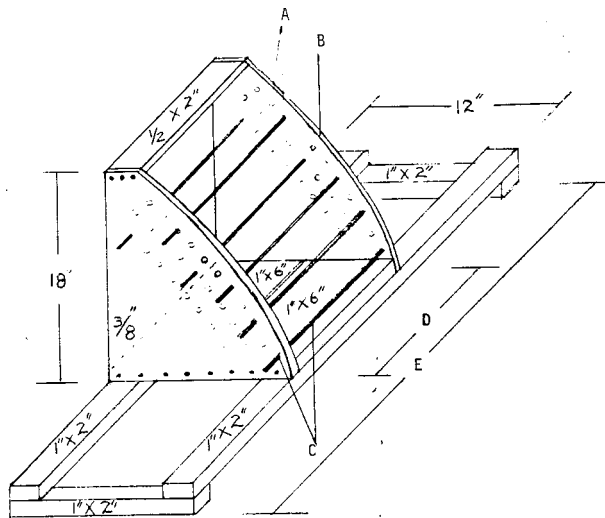

Figure 1: Warp shifting device
In Method Four, warp yarn shifting various tools are really required to make the pattern accurate. See Diagrams for warp shifting box designed by Yoshiko Wada (see figures 1 & 2) and alternative ideas. In method five, the warp will need to be folded lengthwise in half and can
1. Warp shifting Frame, see figures 1 & 2